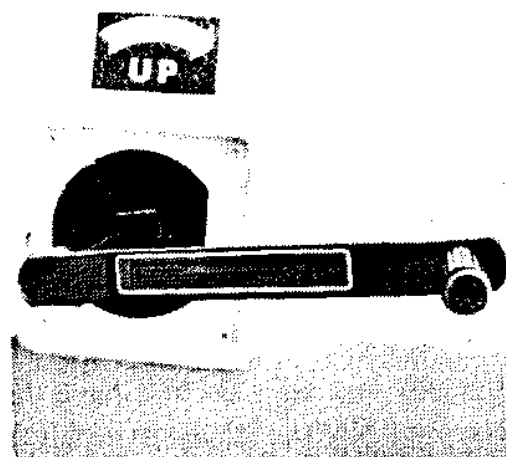

Fig. 2
2. Insert the raising crank into position and crank in a clockwise direction to raise. Fig. 2